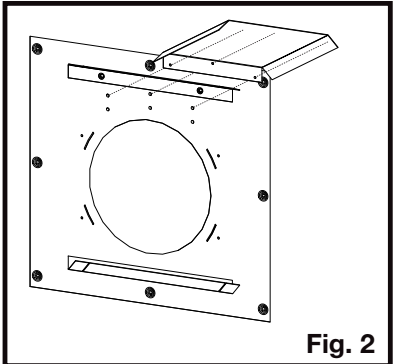

Fig. 2
- 2. Install one vent shield onto the standoff on one side of the firestop spacer (Fig. 2).